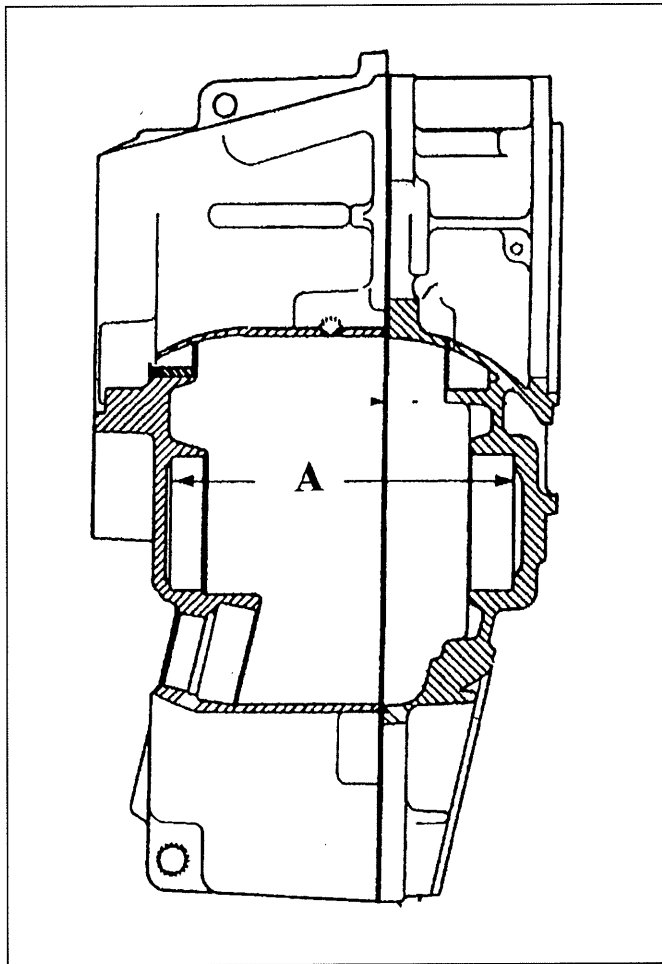

Figure 1-5: Assembled case and cover cutaway
4. Add measurements A1 and A2 determined in 2d and 3g above. This will be the total distance between the intermediate shaft bearing seats in an assembled case and cover (figure 1-5). This is measurement "A".